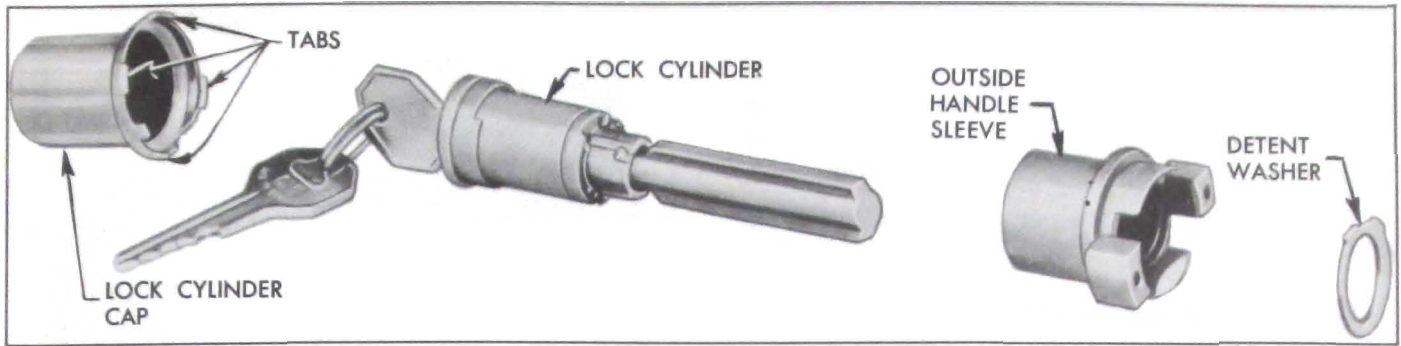

Figure 13-51—Front Door Lock Cylinder
3. Carefully bend out tabs securing lock cylinder cap and remove lock cylinder sleeve and lock cylinder. See Figure 13-51.